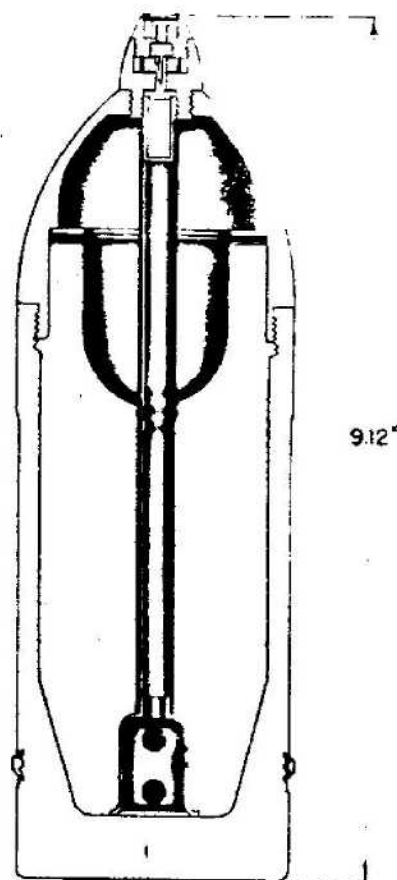

Figure 378—Hollow Charge Projectile for Infantry Gun, 75-mm, 7.5-cm Igr. 38
**GERMAN NOMENCLATURE:** 7.5-cm Igr. 38 (Iager 38). (See fig. 378.)